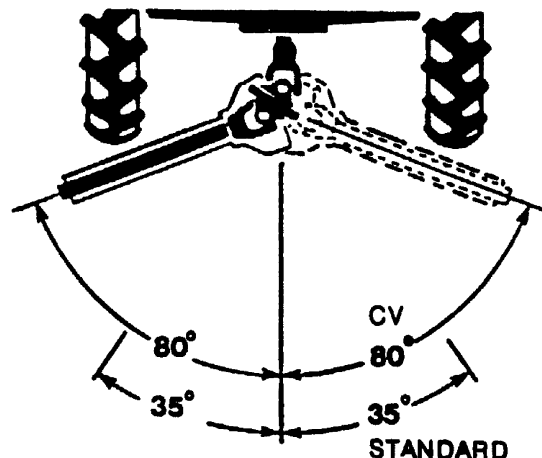

Figure 16 Driveline Angles
4. Although the driveline may be equipped with an optional constant velocity (CV) joint, turning angles are limited. (See Figure 16.) Do not exceed the working angles. Turn off the machine when making sharp turns.
The front universal is equipped with a constant velocity (CV) joint to allow for turning. Although the CV joint allows for sharper turns than a regular drive line, it does have some limitations. Refer to Figure 16.